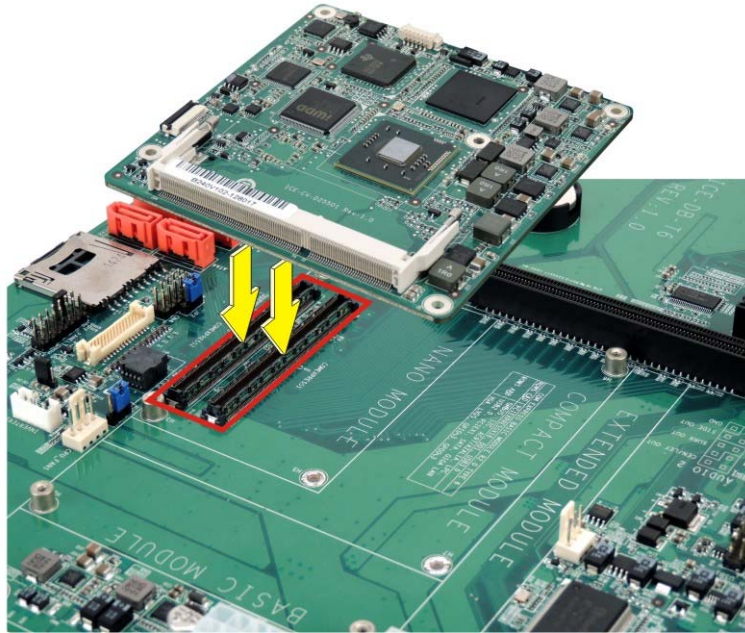

Figure 4-2: Connect the COM Express Connectors
Step 1: Align the two COM Express connectors on the reverse side of ICE-CV-D25501/N26001 with the corresponding connectors on the baseboard. Gently push the COM Express module down to ensure the connectors are properly connected (**Figure 4-2**).